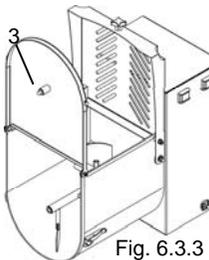

Fig. 6.3.3
- Raise the front cover "3" Fig. 6.3.3